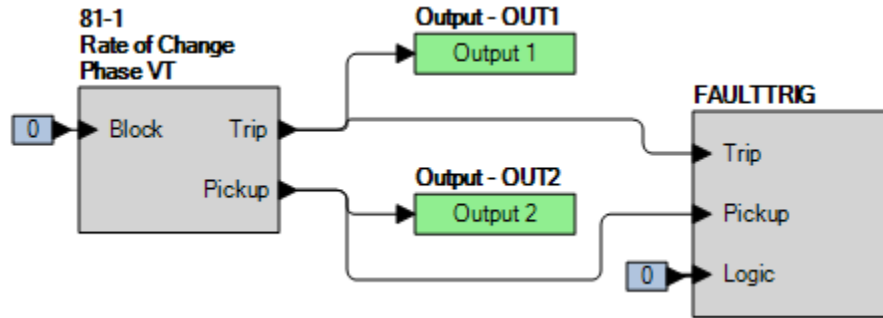

Figure 64-4. BESTlogicPlus Settings (ROC Inhibit)
Step 2: Use BESTCOMSPPlus to configure the BESTlogicPlus programmable logic shown in Figure 64-4.